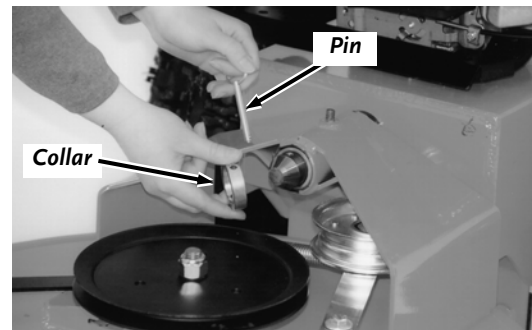

Figure 31
4. Remove the Pin and Collar (**Figure 31**), and then pull the Power Unit away from the Deck.